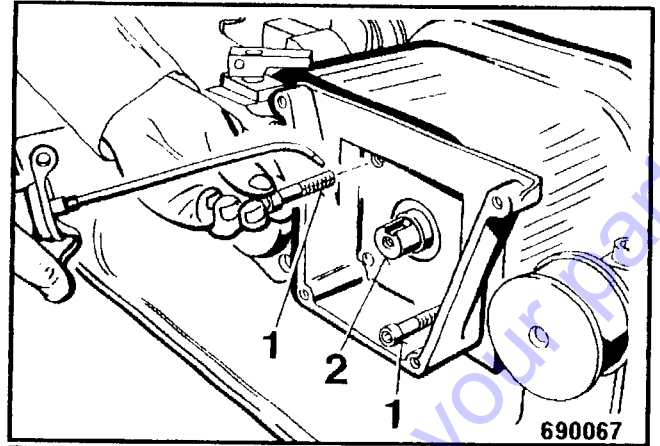

Fig. 9
- Cover the threads of the forcing screws 1 (Fig. 9), M8 min. 35 mm (1.4 in) long, with oil.